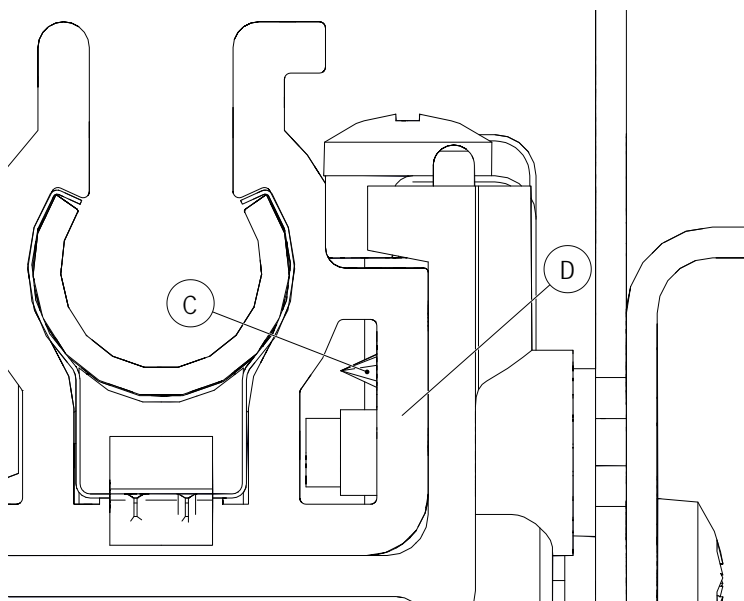
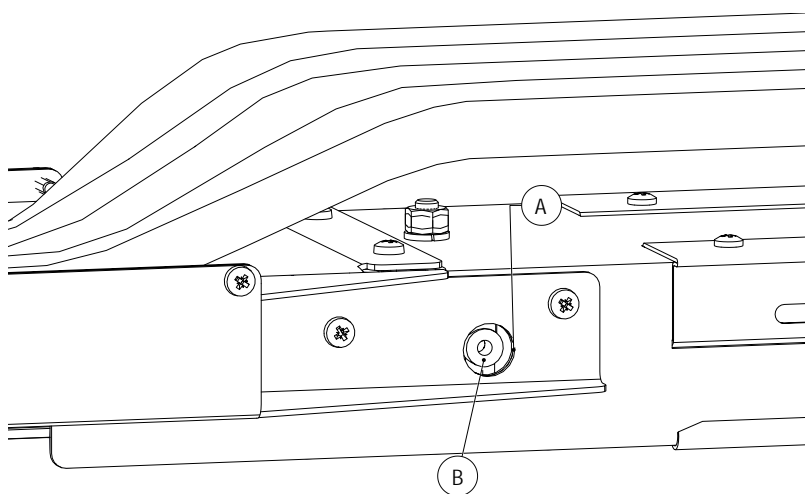

Fig. 77: Drill through first insulating profile wall for anchor point screw
Fig. 78: Pre-drill for fillister head screw
1. The insulating profile must be drilled out for the fillister head screw (C), which ensures the fastening of the conductor rail system. For this purpose, drill through the transverse bore of the anchor point (B) and the first insulating profile wall (D) with a drill $\varnothing 3.2$ mm. The conductor bar must not be damaged. The fastening frame has an extra hole (A) for this purpose, so that the conductor rails can be drilled in the hung state (see Fig. 77 and Fig. 78).